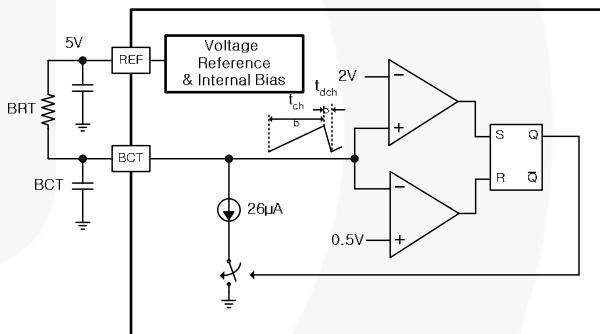

Figure 37. Burst Dimming Oscillator Circuit
**Burst Dimming Oscillator:** The burst dimming timing capacitor (BCT) is charged by the current flowing from the reference voltage source, which is formed by the burst dimming timing resistor (BRT) and the burst dimming timing capacitor (BCT). The sawtooth waveform charges up to 2V. Once the BCT voltage reaches 2V, the capacitor begins discharging down to 0.5V. Next, the BCT starts charging again and a new burst dimming cycle begins, as shown in Figure 37. The burst dimming frequency is programmed by adjusting the BCT and BRT values. The burst dimming frequency is calculated as: